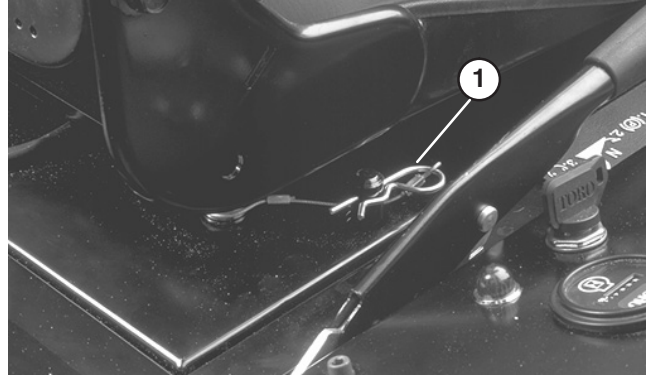

Figure 17
1. Remove retainer clip from seat lock rod (Fig. 17).